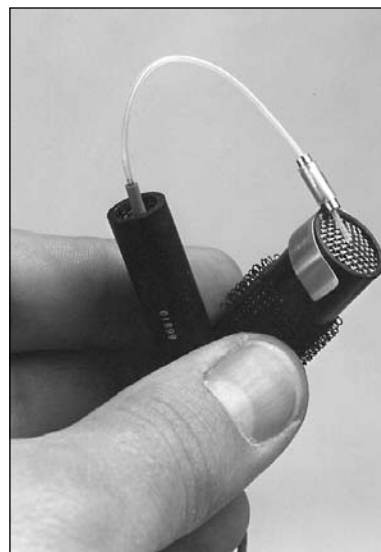

Figure C-1—Attaching the probe to the reference microphone
6. Insert the probe tube through the tube on the clip until the tip of the probe is at the center of the coupler microphone grid (Figure C-1).
2. Couple the coupler mic and probe mic together using the calibration clip (Figure C-1). Place the two at the center of the speaker cone in the sound chamber.